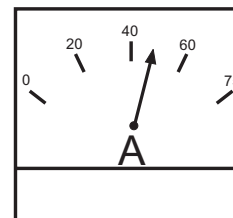

Figure 51. Ammeter (Load)
16. Observe the generator's ammeter (Figure 51) and verify it reads the anticipated amount of current with respect to the load. The ammeter will only display a current reading if the load is in use.